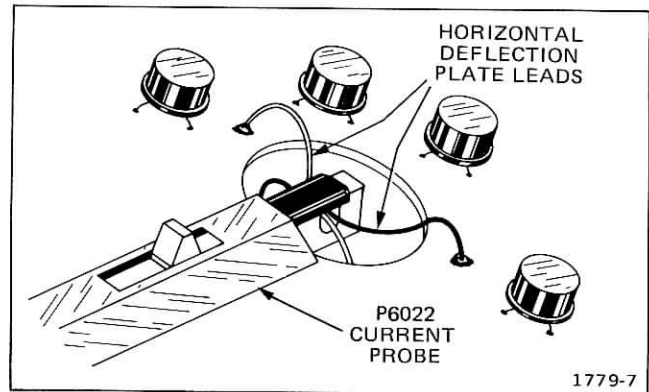

Fig. 6-10. Proper connection of current probe to horizontal deflection plate leads.
- e. Connect the probe head round the crossed horizontal deflection plate leads. See Figure 6-10 for proper probe connection.